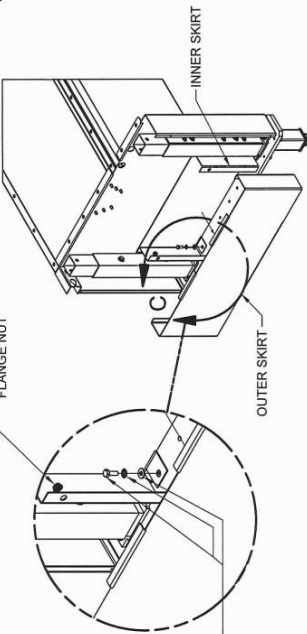

FIG. 1
1. REMOVE (6) 8-32 SCREWS SECURING THE OUTER PANEL TO CABINET BASE. (FIG. 1)